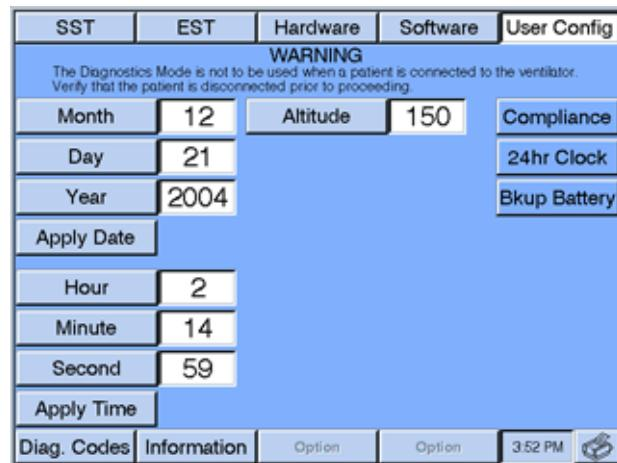

Figure 8-13: Diagnostic Mode - User Configuration Screen
- d. Touch **User Config** on the diagnostic screen and record the Altitude (Figure 8-13) on the Performance Verification Data Form (section 8.10).
2. When EST is successfully completed, touch **User Config** to display the *User Configuration* screen (Figure 8-13).